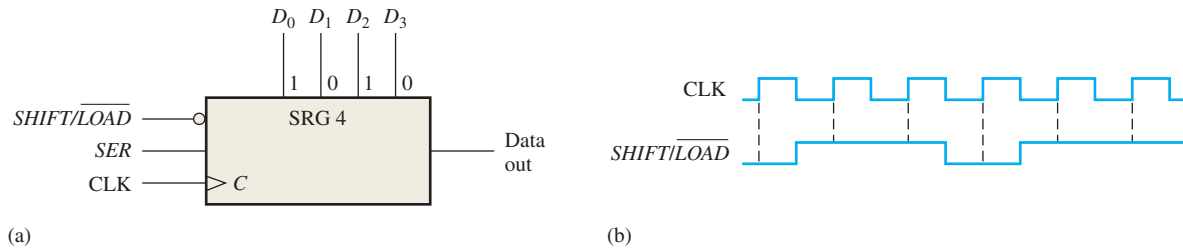

FIGURE 8-54
14. The shift register in Figure 8-54(a) has $\overline{SHIFT/LOAD}$ and CLK inputs as shown in part (b). The serial data input (SER) is a 0. The parallel data inputs are $D_0 = 1$, $D_1 = 0$, $D_2 = 1$, and $D_3 = 0$ as shown. Develop the data-output waveform in relation to the inputs.